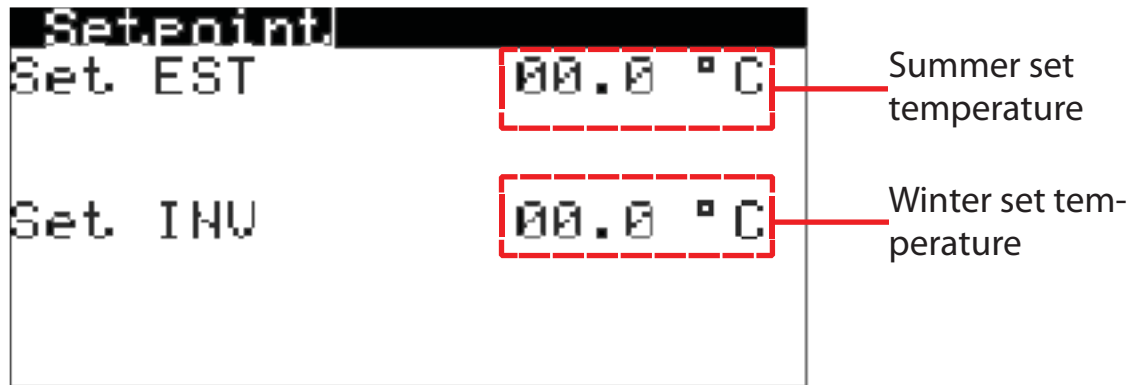

Fig. 6
2. screen for setting of the Summer - Winter set point temperature (Fig. 6)
3. From the on-off screen and adjustment mode (Fig. 5), through the Up  and Down keys , move around the Summer - Winter set point temperature setting screen\* (Fig. 6)